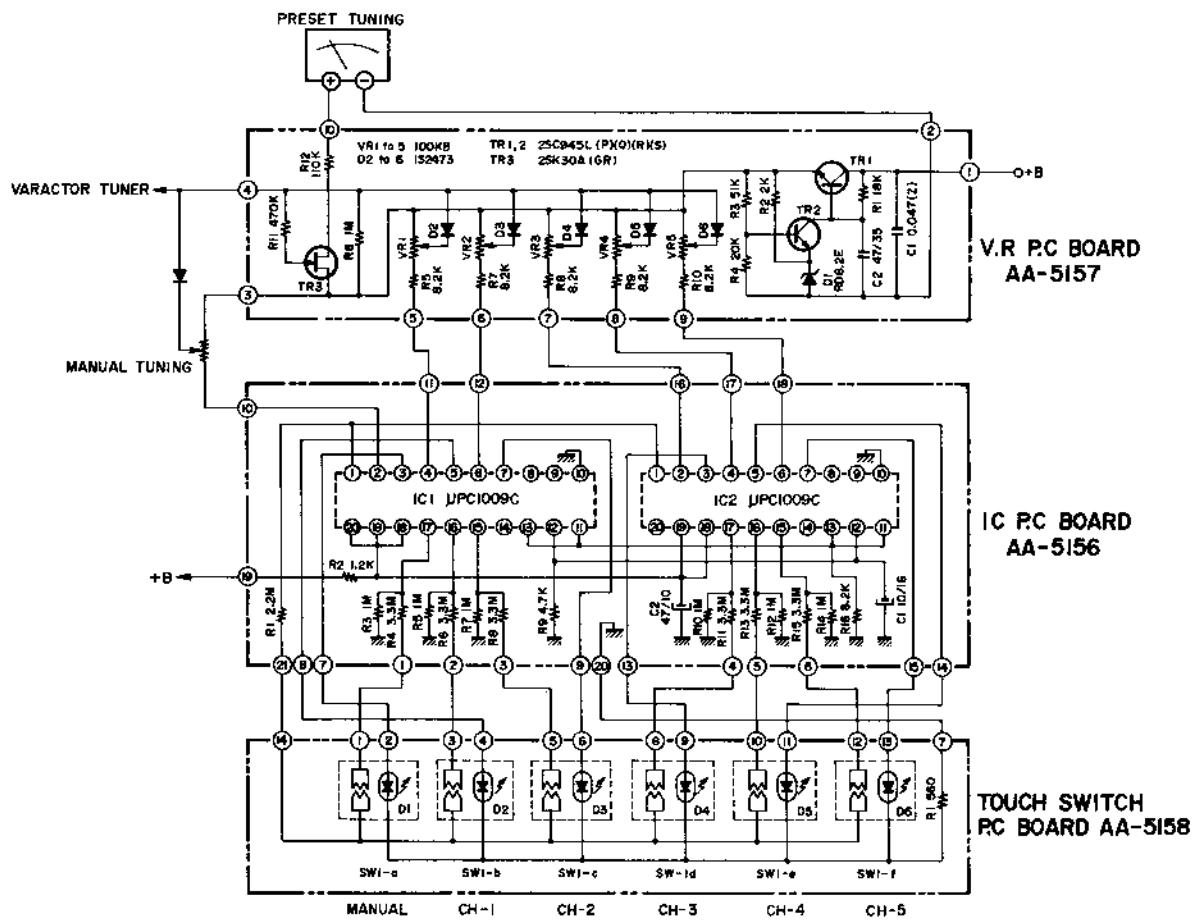
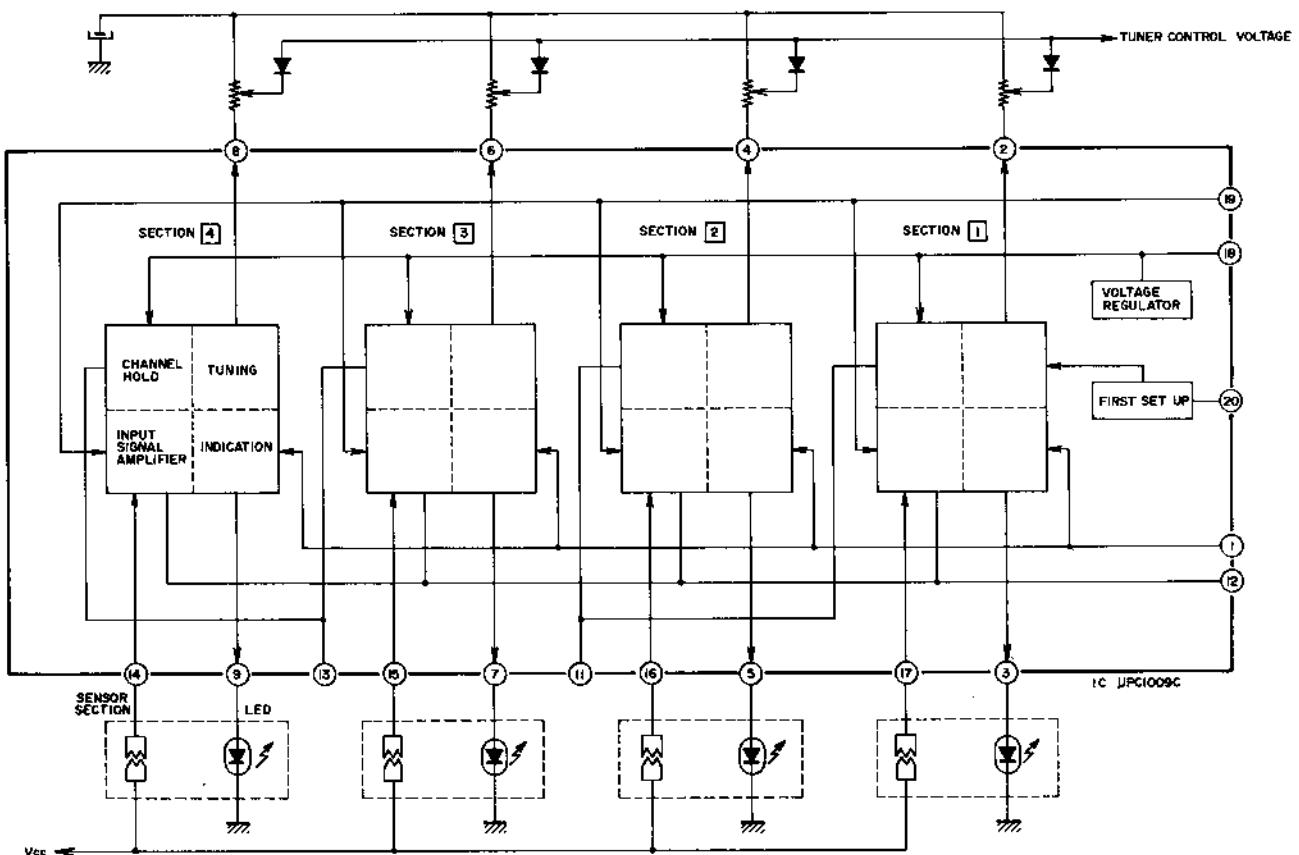
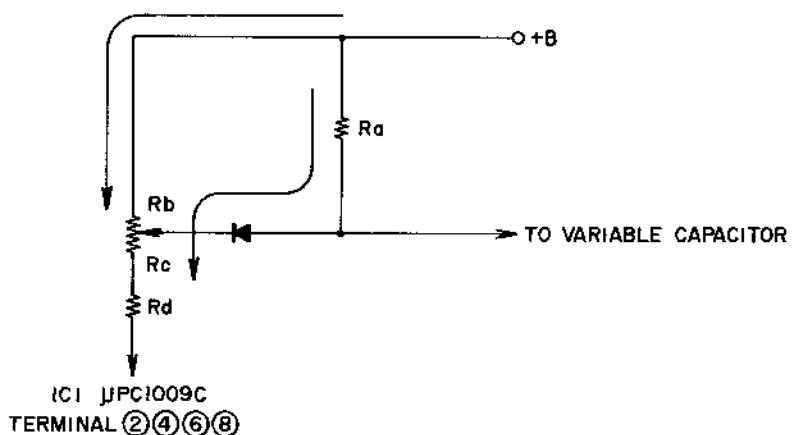

Fig. 7
Fig. 8
Fig. 9
The circuit shown in Fig. 7 is the control voltage generating preset volume and sensi-touch circuit. Fig. 8 shows the inside of circuit sensi-touch IC μ PC1009C which include the 4 channel circuitry. Terminals 14 through 17 are the input terminals; terminals ②, ④, ⑥, and ⑧ are the station selection output terminals; and terminals ③, ⑤, ⑦, and ⑨ are the pilot output terminals. When channel 1 sensor electrode is touched, voltage is supplied to the IC as the input signal through finger (body) resistance at terminal ⑯. Then, the impedance is lowered at IC station selector output terminal ② and current flows as shown by the arrow marks in Fig. 9. Consequently, because the supply voltage to the varactor tuner diode is changed by the dividing ratio of R_b and R_c , station selection is possible by means of setting the preset volumes beforehand according to the desired broadcast frequencies.